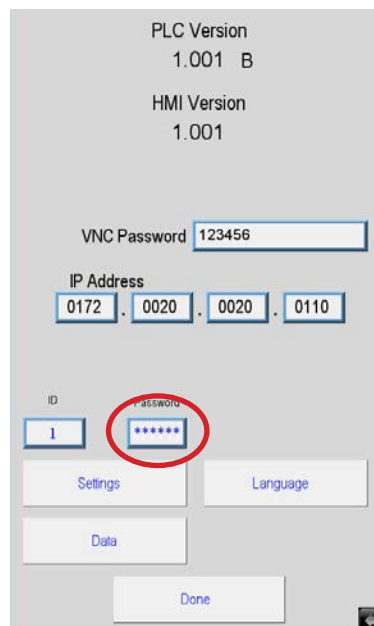

Figure D.3 - Password Field
1. From View Screen, press the Password field to select it. The Password field is located just above the “Settings” button and to the right of the box labeled “ID” (see Figure D.3).